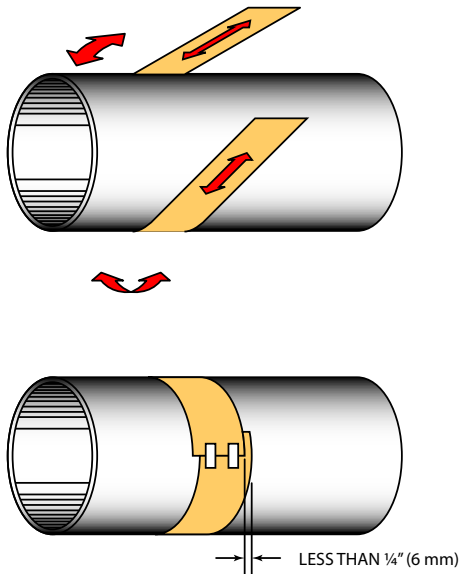

Figure 23: Paper template alignment
1. Wrap the paper around the pipe in the manner shown in *Figure 23*. Align the paper ends to within 1/4 inch (6 mm).